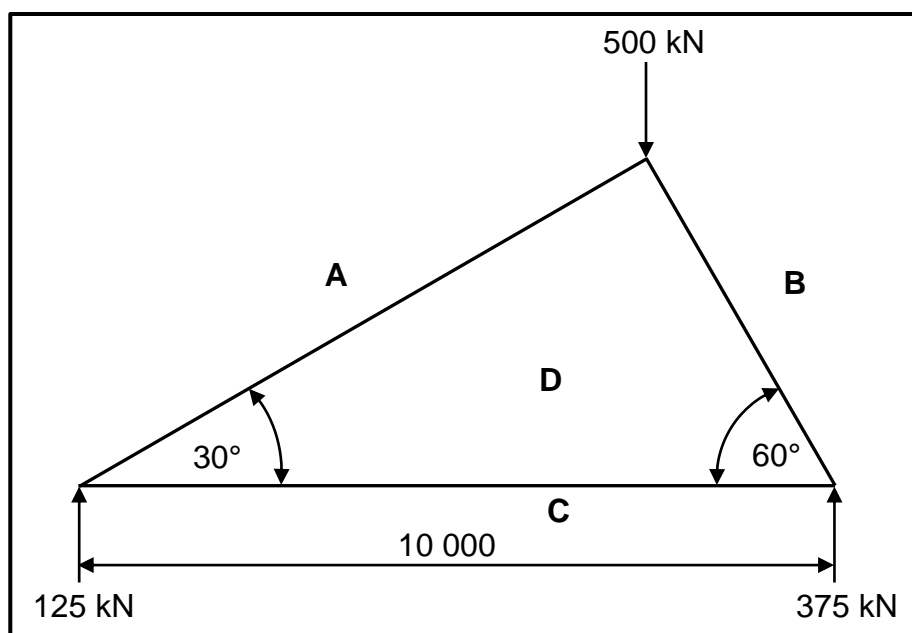

FIGURE 7.4
7.4 FIGURE 7.4 below shows a steel framework. Answer the questions that follow.
7.4.2 Determine graphically the magnitude and nature of the force in **AD**, **BD** and **CD** in the steel frame structure by using the space diagram in FIGURE 7.4.